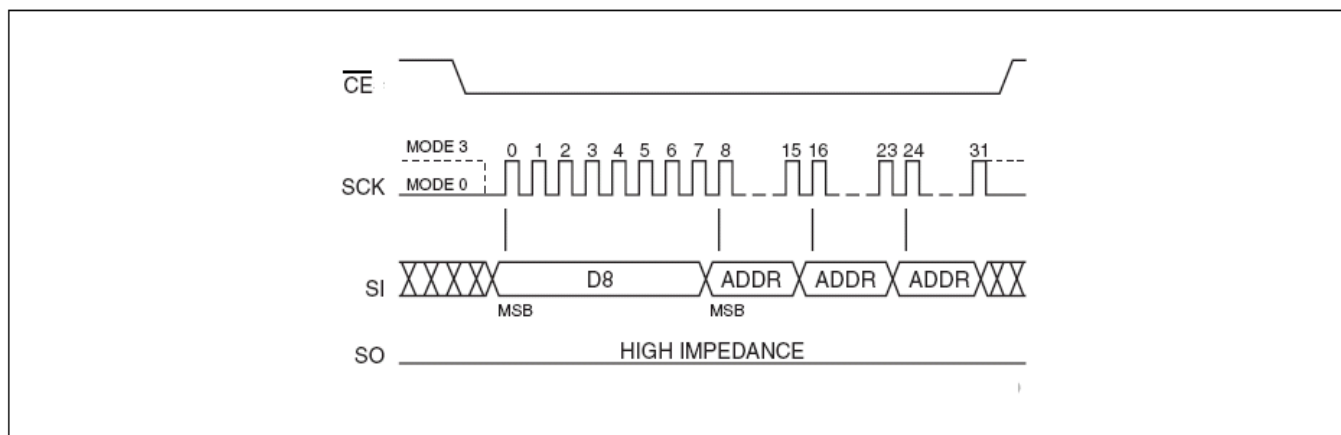

Figure 8: 64K-byte Block Erase Sequence
-A0]. Address bits [AMS-A16] (AMS = Most Significant address) are used to determine the block address (BAx), remaining address bits can be VIL or VIH.  $\overline{CE}$  must be driven high before the instruction is executed. The user may poll the Busy bit in the Software Status Register or wait TBE for the completion of the internal self-timed Block Erase cycle. See Figure 8 for the Block Erase sequence.